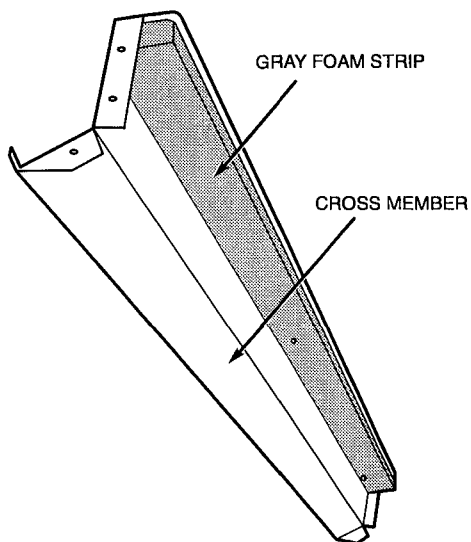

Fig. 24 — Adding Foam Strip to Cross Member
6. Add gray foam strip (provided in package) to cross members on bottom tray. See Fig. 24.